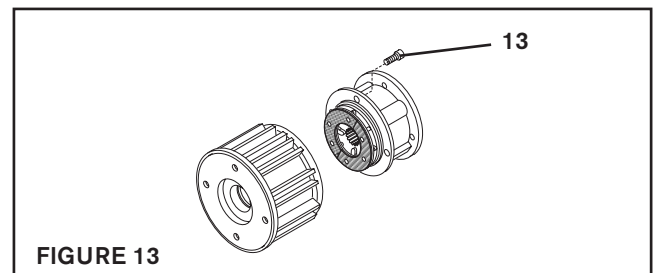

FIGURE 13
1. Remove the four Socket Head Cap Screws (Item 13) and separate the two halves of the FMCBE (See Figure 13).